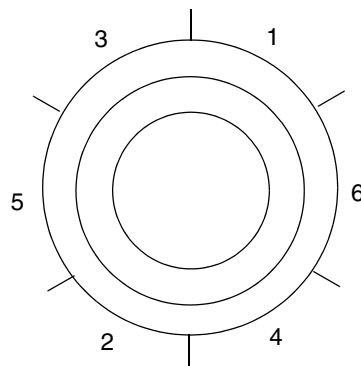

Figure 6. Welding Procedure
2. Weld the spud mounting ring in sections as indicated in Figure 6.
3. Tack weld using the welding sequence shown in Figure 6. Cool each section with water until the temperature is below 700°F (370°C) before proceeding to the next section.
- Tack weld using the welding sequence shown in Figure 6. Cool each section with water until the temperature is below 700°F (370°C) before proceeding to the next section.
Figure 6 shows a typical piping application. Calibration supply pressure can be applied via a calibration screw. The lower conduit port can be used as a drain for moisture buildup in terminal compartment.